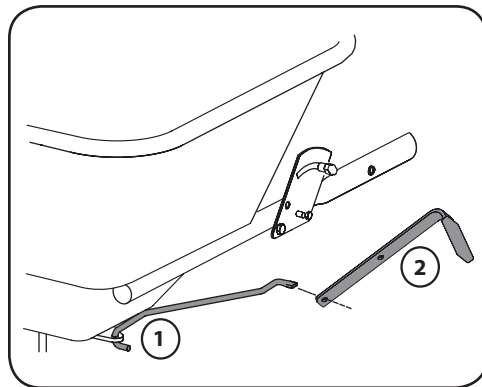

Figure 2-13
- Insert the control rod (hook side) into the restrictor plate (beneath the hopper) from the top down. See 1 in Figure 2-13.
- Turn the control handle on its side and insert the flattened (90° angle side) of the control rod into the lower hole on the control handle. See 2 in Figure 2-13.